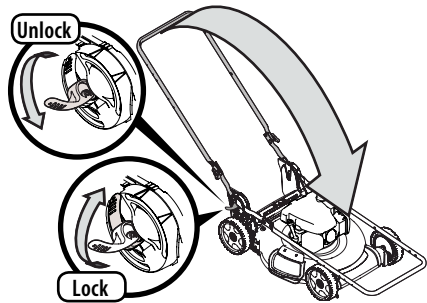

Figure 20
3. Unlock the two handle release levers. See inset Figure 20.
4. Fold the handle (b) forward to the storage position (Figure 20).
5. Lock the two handle release levers. See inset Figure 20.